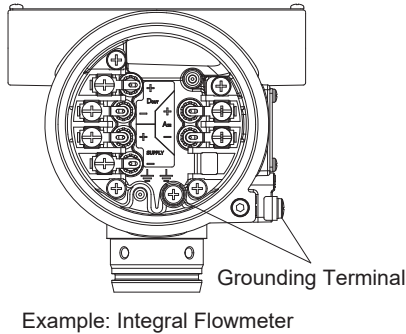

Figure 4.10 Grounding Terminal
- (2) As shown in Figure 4.10, a grounding terminal is located on the inside and outside, respectively. Either of these terminals may be used.
- (3) In the case of a remote transmitter, ground the sensor side.
- (4) Use 600 V PVC insulated wire for grounding.